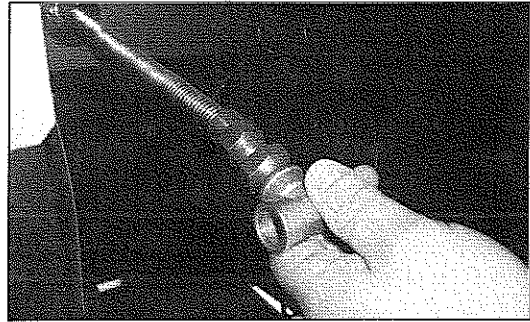

Fig 16
23. Attach the Connector 3/8" NPT x 5/8" UNF to the flex line as shown. Tighten with wrench. (See Fig. 16)